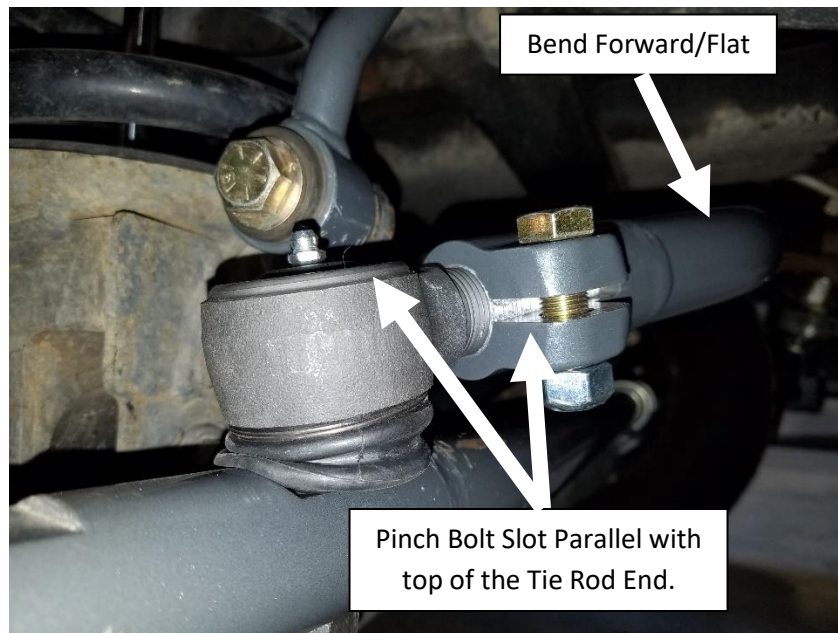

Figure 9. Pinch Bolt Style Drag Link Tie Rod End Correct Alignment
16. Align the drag link so the pinch bolt forging is forward and the bend is flat. Tighten the pinch bolt on the tie rod side, you do not need to fully torque it at this time. Tightening the pinch bolt will ‘lock’ the drag link into position. The tie rod end that goes from the drag link into the tie rod is a single plane tie rod end that will prevent the drag link from ‘flopping’. See **Figure 9**.